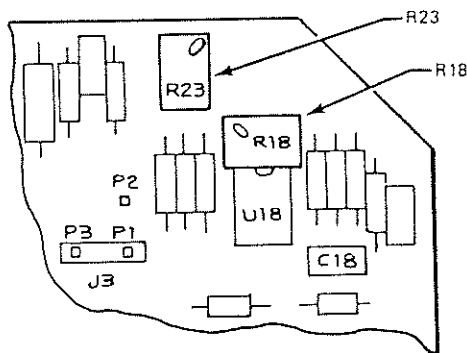

Figure 17.
- 0 to 10 V dc Nonisolated - Adjust R18 on the processor board for a 10.00 V dc reading (See Figure 17).
- a. Output 0 to 10 V dc Nonisolated - Adjust R23 on processor board until a reading of 10.00 V dc is achieved (see Figure 17).